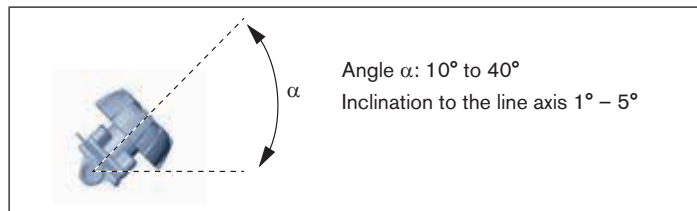
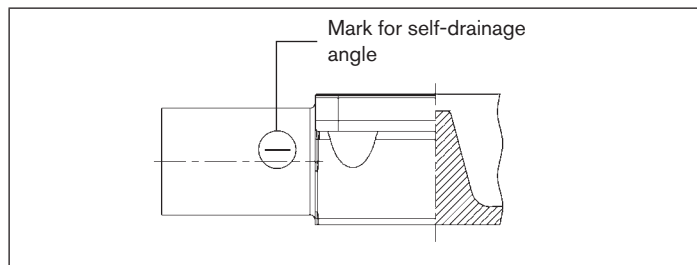

Fig. 6: Installation position for self-drainage of the body
Fig. 7: Mark for the correct installation position
- Install body inclined by angle  $\alpha = 10^\circ$  to  $40^\circ$  to the horizontal (see "Fig. 6"). Forged and cast body feature a mark which must face upwards (12 o'clock position, see "Fig. 7").